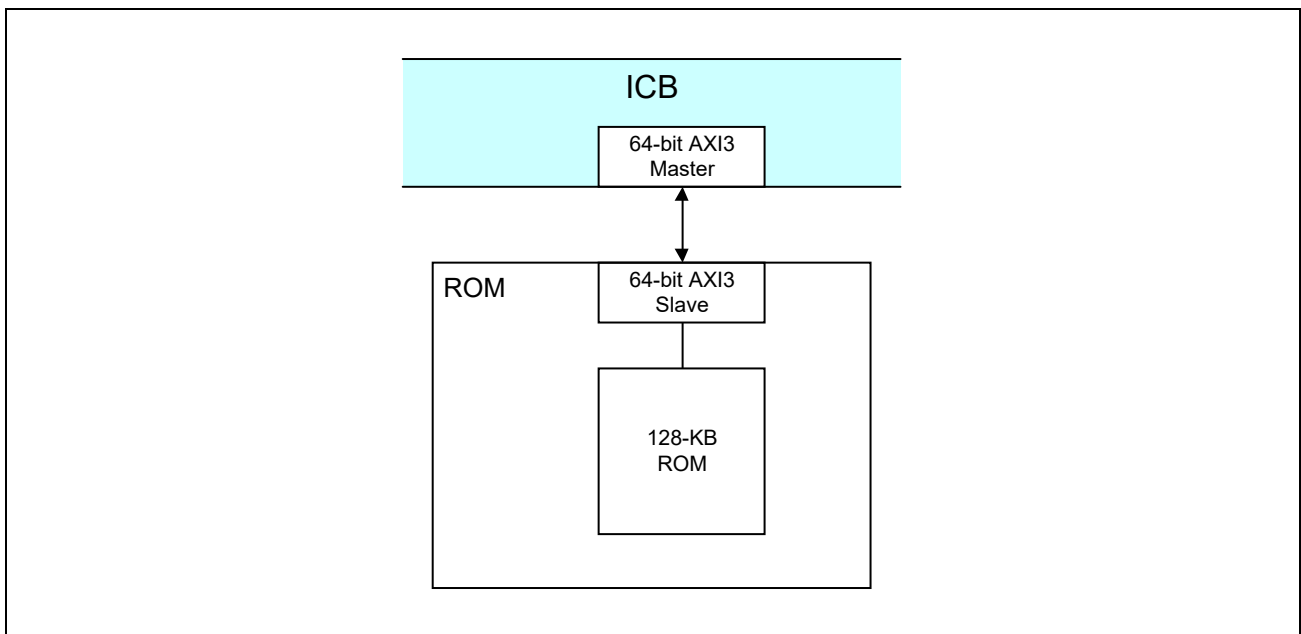

Figure 14.1-1 Schematic of ROM Connection
**Figure 14.1-1** shows the connection diagram of the ROM.